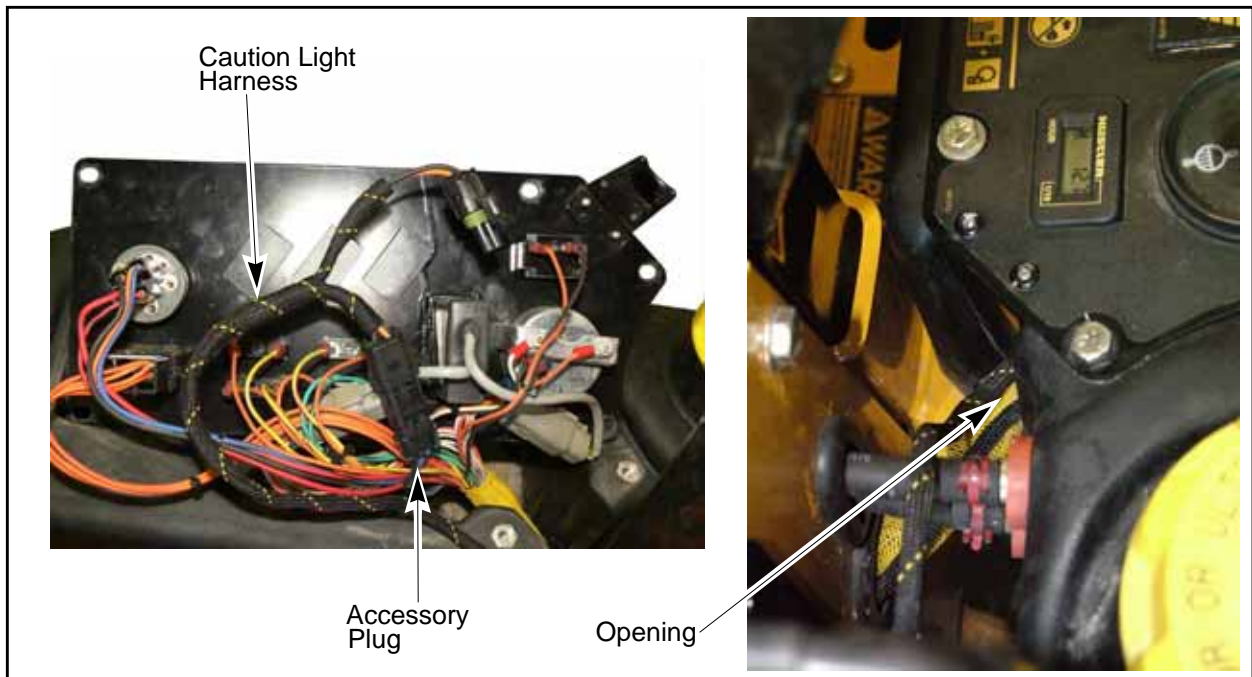

Fig. 4
5. Remove the instrument panel. Locate the accessory plug on the mower's wire harness and plug the caution light harness into the accessory plug. Fig. 4
6. Reattach the instrument panel and route the wire harness through the opening at the lower rear of the control panel. Make certain that no wires get pinched. Fig. 4